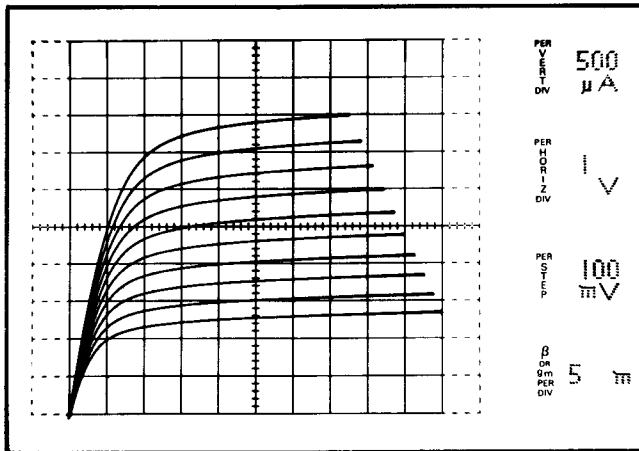

Fig. 2-17. Display of FET common-source characteristic curves: I_D vs. V_{DS} for 10 steps of gate voltage at 0.05 volts/step.
applied to the gate (see Fig. 2-17). Since the steps applied to the gate are positive-going, the curves displayed represent enhancement mode operation of the FET. (Press the SINGLE STEP FAMILY button to locate the curve obtained with zero volts on the gate.)
67. Press the POLARITY INVERT button and note the display of the depletion mode of operation of the FET (see Fig. 2-17). (Press SINGLE STEP FAMILY button for zero bias curve.)